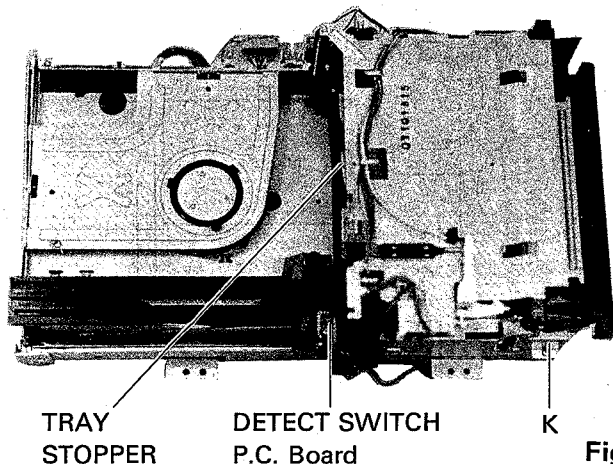

Fig. 3
1. Remove the screw (I), and remove the FEED NUT SUPPORT.
3. Remove the screw (J), and remove the PICKUP with the PICKUP SHAFT.
(6) Removing the MAGAZINE HOLDER(Fig.3,4)